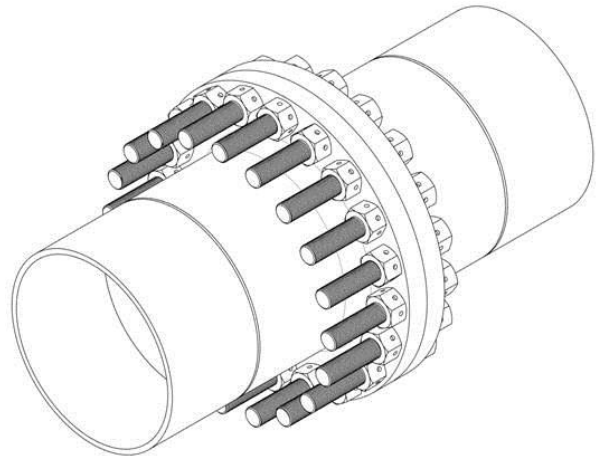

Figure 5b:
4.1.3.2. BOLT INSTALLATION FOR 50% TENSIONER COVERAGE (Figure 5b)
This method of installation is normally used where bolts are required to be tensioned from one side of the flange only, due to an access restriction on the opposite. It is basically a two stage tensioning operation where 50% of the bolts are tensioned in the first stage, followed by the remaining 50% of bolts in the second stage. In order to adopt this method the bolts must be assembled with the protrusions on the same side of the flange as illustrated in Figure 5b.